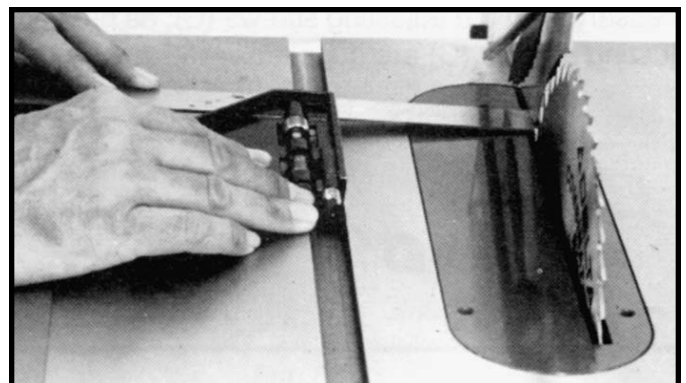

Fig. 45
3. Rotate the saw blade so that the same tooth you used in **STEP 2** is in the rear position, as shown in Fig. 45, and check this distance. Both the front and rear measurements should be identical.